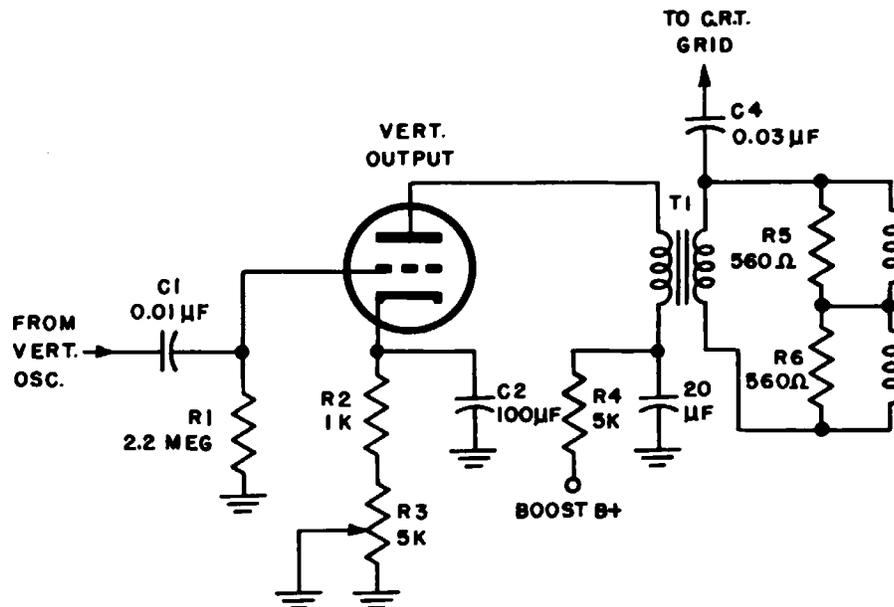

Fig. 6-1. A typical vertical-output stage.
**ANS.** Some of the symptoms, and their causes, produced by improper functioning in the vertical output stage (Fig. 6-1) are listed in Table 6-1.